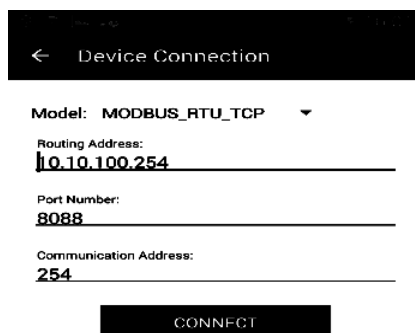

Fig. 28 Wi-Fi parameters
- If the Wi-Fi Connect is selected in the first step, it will skip to interface of Fig. 28. And then click CONNECT.